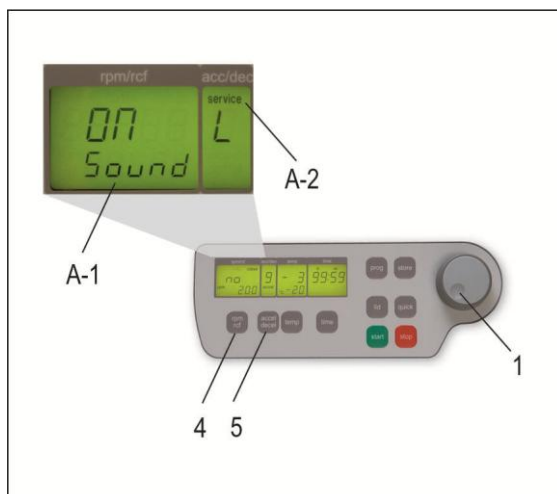

Figure 5
Proceed as illustrated, under point 1.8.1, to enter this program mode, press the key; "accel/decel" (5). In the display, "accel/decel" (A-2) flashes the word, "service". Select the letter, "L" with the adjustable knob (1). As a result, appearing in the display "rpm/rcf" (4), are the words, "On Sound". By pressing the key, "rpm/rcf" (4), the word "On" flashes, and the sound can be switched off with the adjustable knob (1), (see Figure 5).